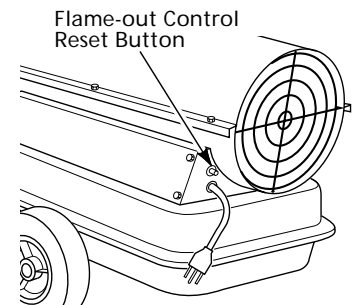

Figure 5 - Flame-out Control Reset Button
5. Plug extension cord into standard 120 volt/60 hertz, three-hole, grounded outlet. Heater will start when extension cord is plugged into outlet. If not, push in flame-out control reset button (See Figure 5).